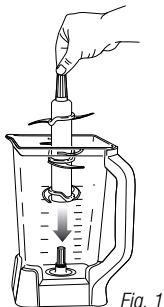

Fig. 1
- 3 Holding the Stacked Blade Assembly by the top of the shaft, place it onto the drive gear inside the pitcher. Ensure that the Stacked Blade Assembly is seated properly and is standing upright. **(Fig. 1)**